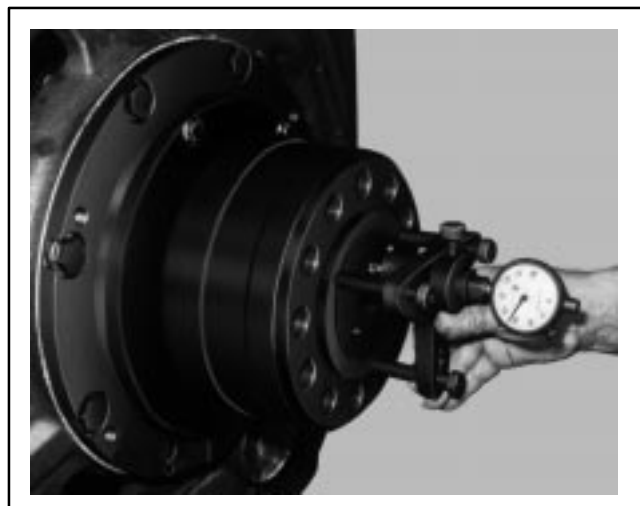

FIG. 23. METHOD OF USING ADVANCE GAUGE. E-5975A.
3. Trial mount the cold hub onto the shaft. Measure and record the position of the hub with respect to the end of the shaft. Take measurements with a micrometer advance gauge similar to that shown in Fig. 23. Zero the gauge.
6. Check the hot or shrunk-on position of the hub on the shaft. The advance from cold to hot position along the axis of the shaft must be held within the limits indicated. Check the actual advance with an indicator gauge, located in the same relative position as used to measure the cold position in Step 3, Fig. 23.